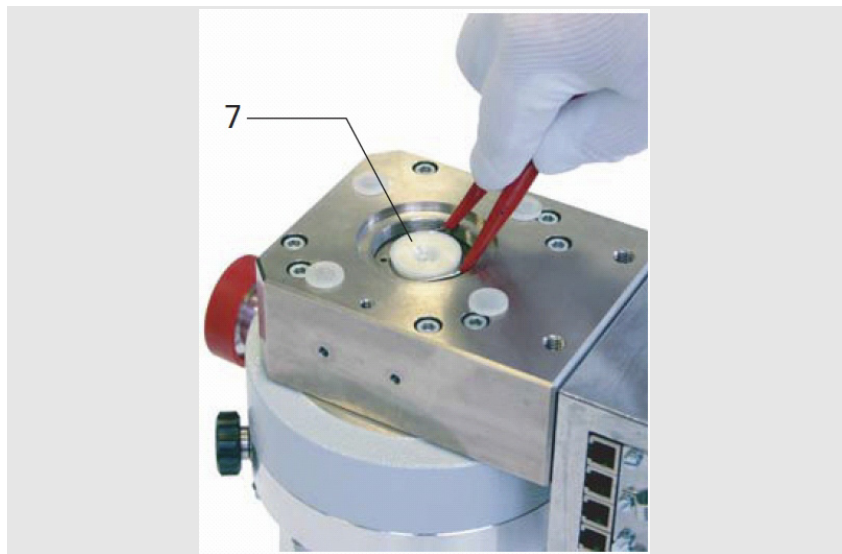

Fig. 75 Removing the lubricant reservoir²
7. Using a small flat-blade screwdriver or tweezers, gently pry out the lubricant reservoir, including the O-ring, as shown in Figure 75.